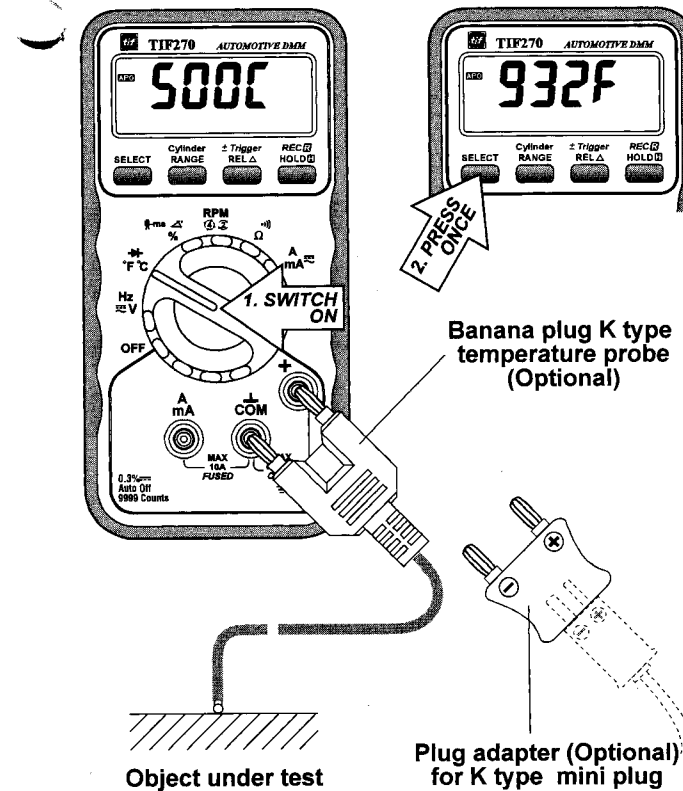

FIG 4. TEMPERATURE FUNCTION
- 4) Touch the end of the temperature probe to the measurement surface and observe the digital display, see **FIG 4**